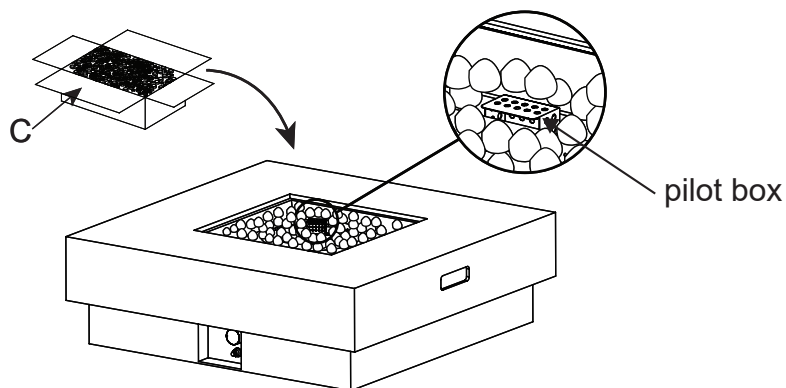

Figure 12
11. Open the box of lava rocks, put the lava rocks (C) into the fire bowl of the fire pit body (B) (see Figure 12).